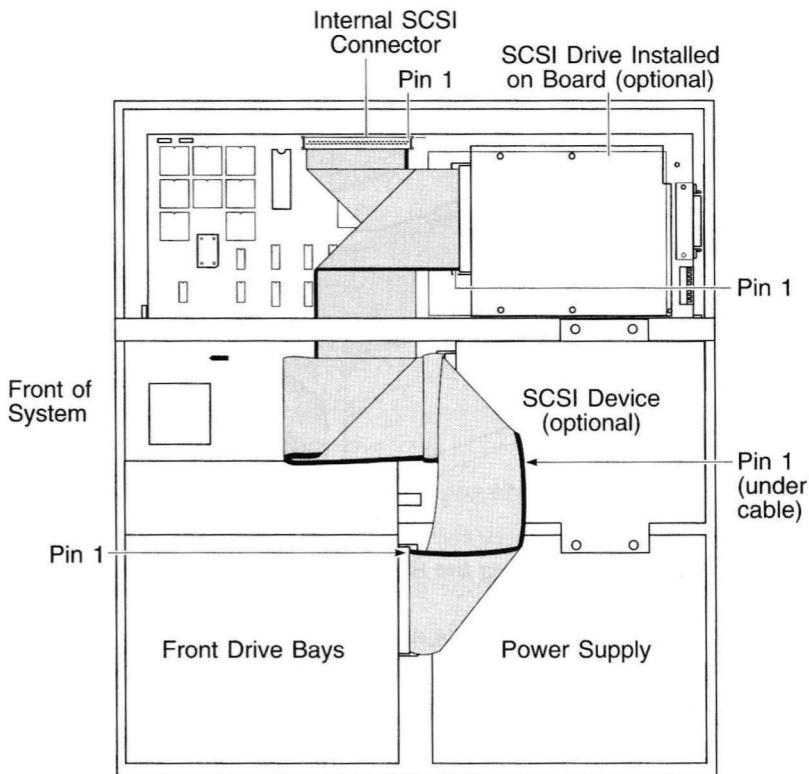

Figure 7. Connecting the Ribbon Cable to SCSI Devices
7. Fold the ribbon cable down and guide it towards the back of the Amiga as illustrated in Figure 7.
8. Connect the ribbon cable to the internal SCSI devices as illustrated in Figure 7. Be sure to align pin 1 on the cable connector with pin 1 on the device, usually indicated on the device by an arrow (←) or the number 1.